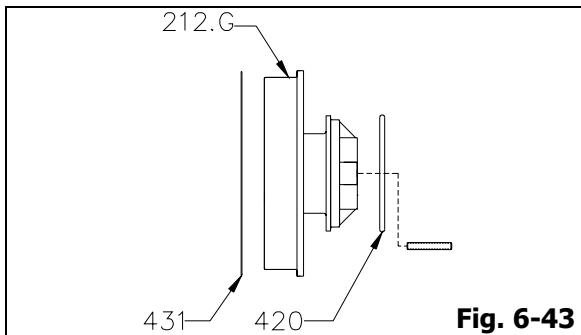

Fig. 6-43
5. Remove stuffing box cover "O" ring (420), stuffing box cover gasket (431) and two (2) gland studs from stuffing box cover (212.G) (Fig. 6-43).